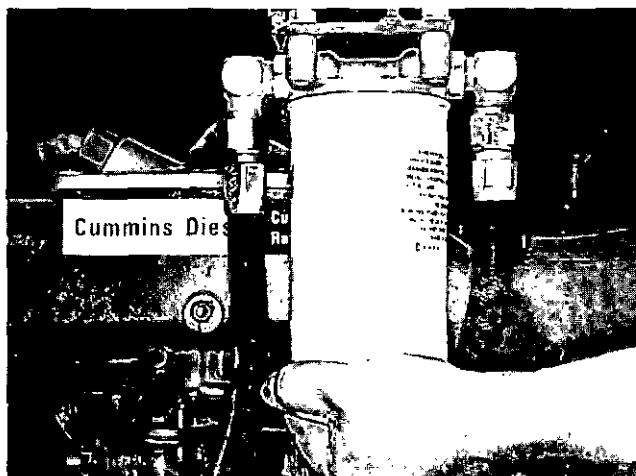

Fig. 2-25 (V11909) Changing throw-away type fuel filter
1. Unscrew combination case and element, Fig. 2-25, discard element.